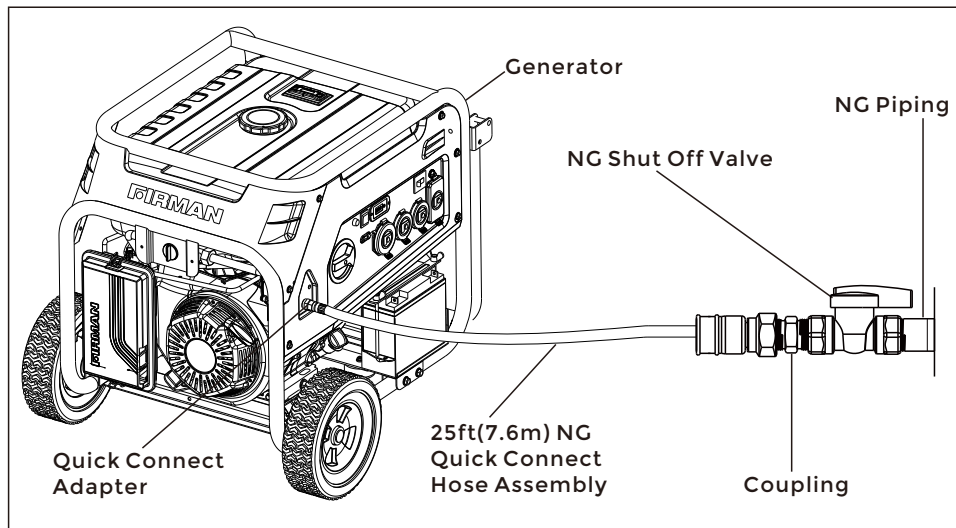

Figure 11
9. Rinse off the leak test solution with clean water after performing the leak test (Figure 11).